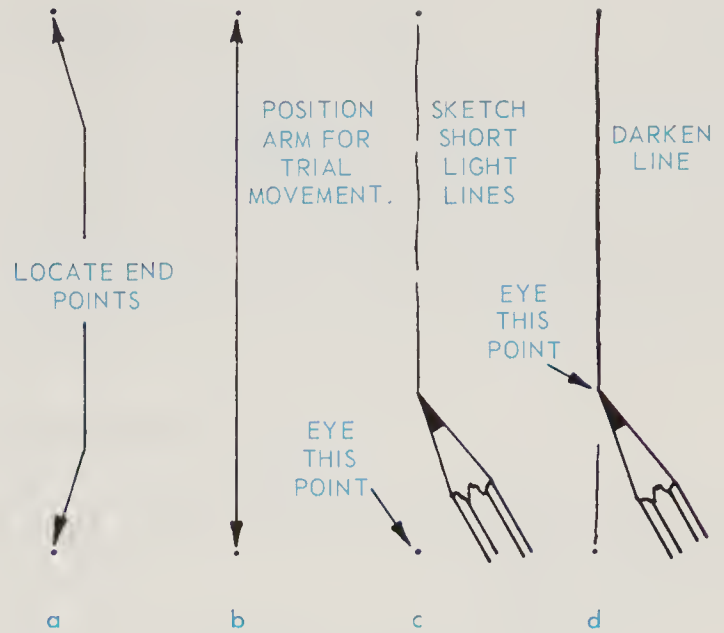

Fig. 4-7. Steps in sketching vertical lines.
1. Locate and mark the end points of the line to be sketched, Fig. 4-7(a).
2. Position the arm by making trial movements from top to bottom without marking the paper, Fig. 4-7(b).
3. Sketch short, light lines between the points, Fig. 4-7(c). KEEP YOUR EYE ON THE POINT WHERE LINE IS TO END.
4. Darken the line to form one continuous line of uniform weight. In this step, the eye should lead the pencil along the lightly sketched line, Fig. 4-7(d).